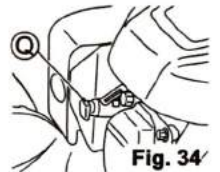

Fig. 34
1. Remove Plug cap (Q). (See Fig. 34)